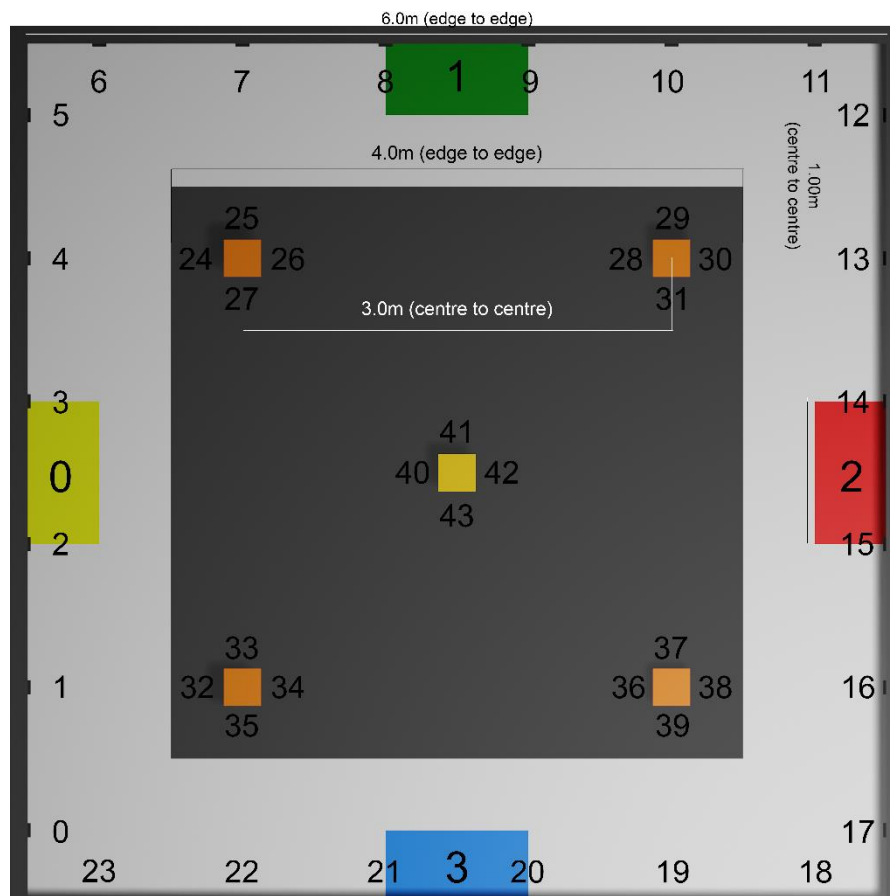

Figure 1 - Diagram of the arena with measurements and marker numbers.
- 1.3 There are five Baskets in the arena. Each basket has a specified capacity, after the capacity is reached baskets will reject eggs onto the floor of the arena. The five Baskets will be positioned as shown in Figure 1: